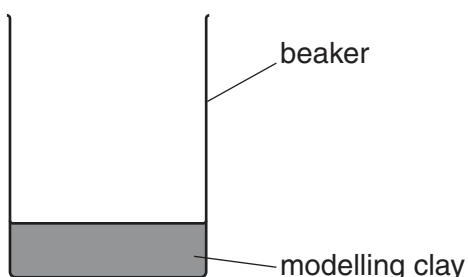

Fig. 1.1
- 1 The modelling clay should be pressed to the bottom of the **inside** of the 250 ml beaker forming a flat layer as shown in Fig. 1.1.